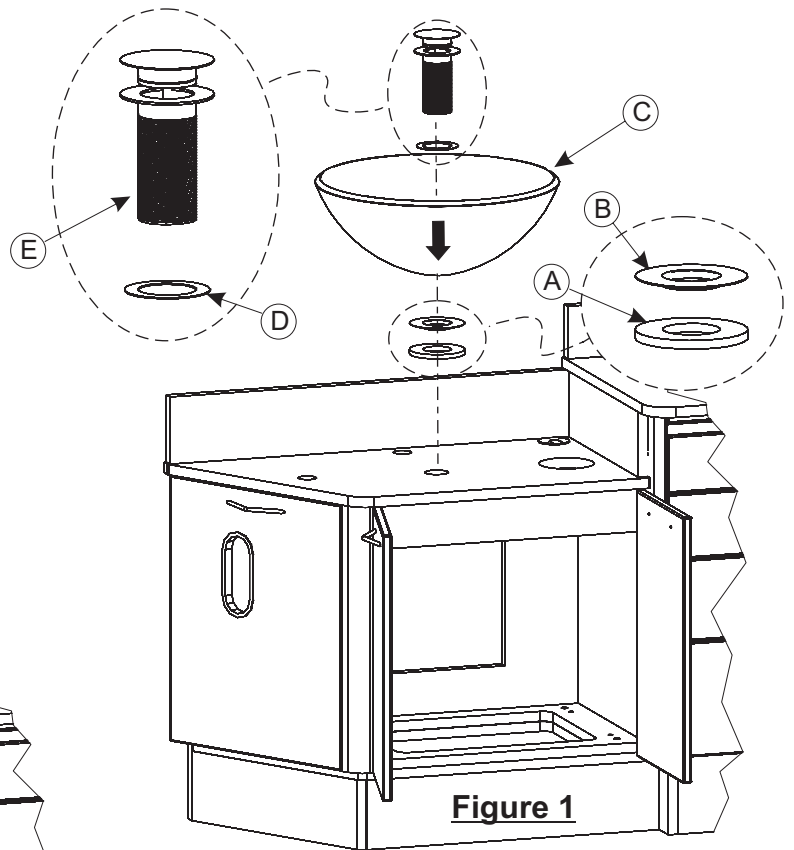

Figure 1
Place Mounting Ring (A), Large Rubber Washer (B), Glass Bowl (C) aligned over the hole in the counter top. Insert the Drain Assembly (E) with the Small Rubber Washer (D) through the hole in the Glass Bowl. (see Figure 1).